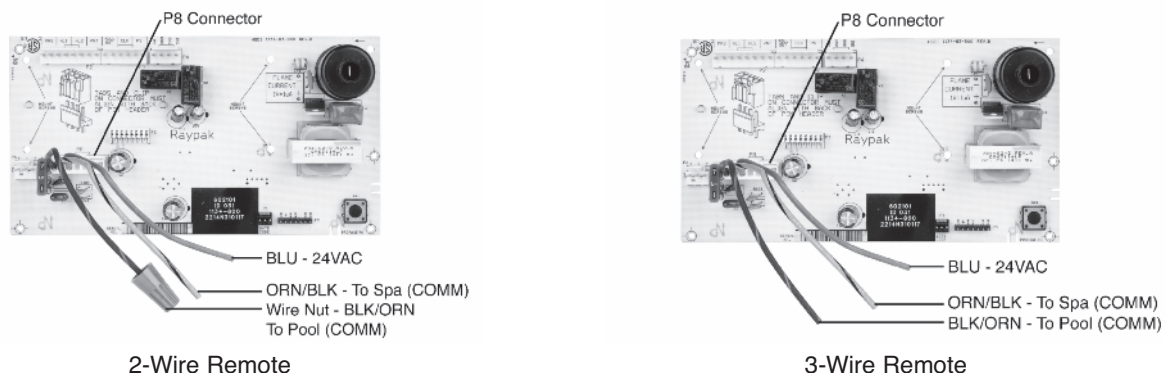

Fig. 30: Remote Control Wiring
3. For a 2-Wire Remote Control from a remote with its own sensor, push the mode button "POOL" or "SPA" mode and set the temperature to the highest setting available on the control. The actual setpoint will be controlled by the remote control. See Fig. 30.
2. Push the mode button to the "POOL" or "SPA" mode and set the desired temperature for each (eg. 80°F for Pool and 102°F for Spa). See Fig. 30.